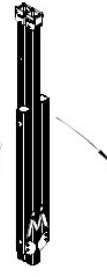

fig 7
1. Remove the leg from its case and wrapping. Position it as shown (fig 7).